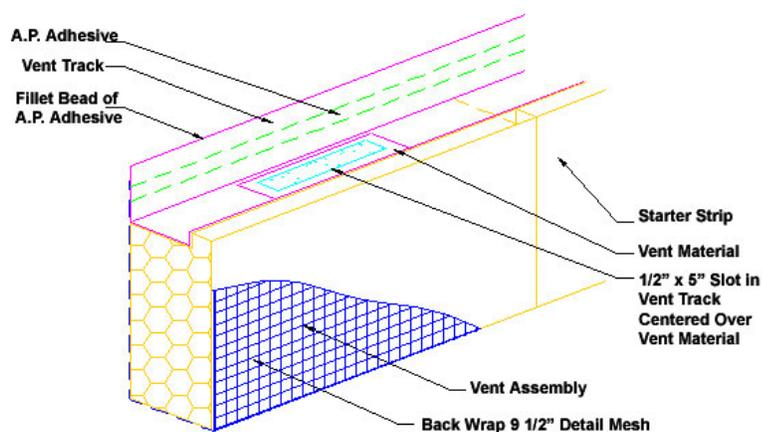

Fig. 21
7. Install the Dryvit Vent Track and Dryvit Track by applying a continuous horizontal bead of Dryvit's AP Adhesive on the wall side of the vertical nailing flange of the track and position over the Dryvit Starter Strip. When installing the Dryvit Vent Track the cut out (slot) must be located directly above the Dryvit Vent Assembly – Figure 21. Press firmly against the substrate to ensure firm and continuous contact between the adhesive and the wall surface. **NOTE: It is recommended that the surface of the Drainage Track and Vent Track be lightly sanded to improve adhesion of Backstop NT or AquaFlash.**